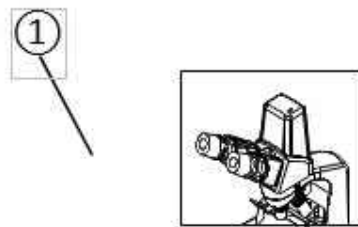

Fig.23
3.3.7 Adjusting the diopter(Fig.23)